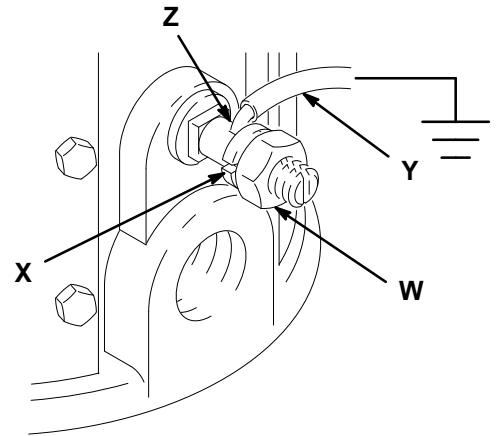

Fig. 2
1. *Pump*: use a ground wire and clamp as shown in Fig. 2.